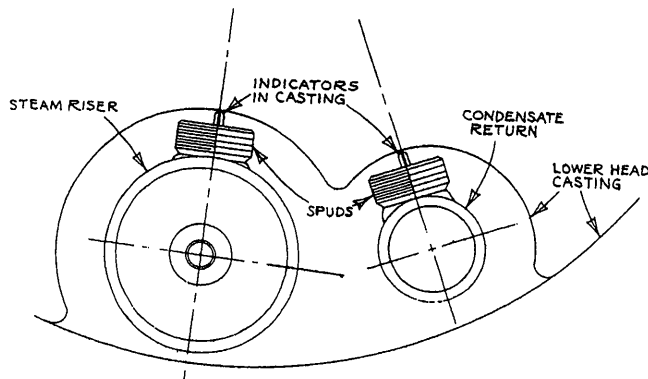

Figure HE-101-6 -- Alignment of Steam Riser and Condensate Return
- Turn the riser or return in leak tight, but carefully line up the spud centers with the raised indicators on the bosses in the head casting as shown in Figure HE-101-6.